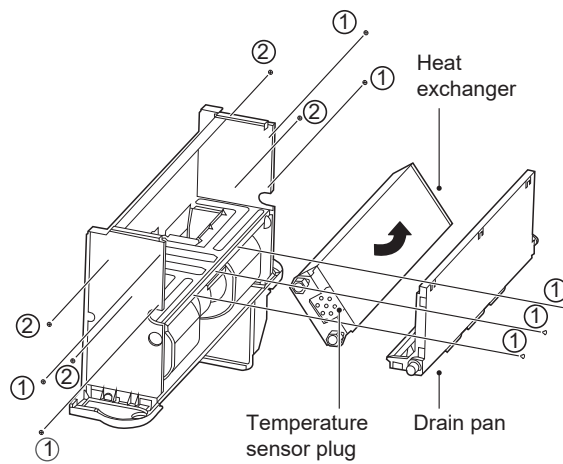

Figure 5-18
As shown in Figure 5-18, remove screws ①\*7 to take the drain pan out.
Rotate the coil in the direction as shown in Figure 5-18.